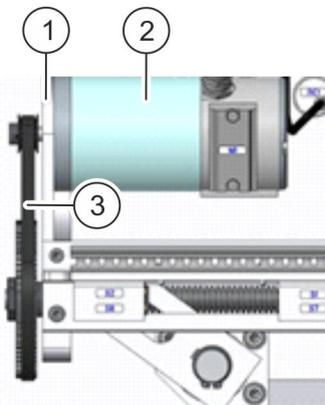

Fig. 24: Undoing the motor fastening
6. ▶ Undo the screws for the motor fastening (Fig. 24/1).
7. ▶ Remove the tooth belt (Fig. 24/3).
8. ▶ Remove the motor (Fig. 24/2).
9. ▶ Insert the new motor (Fig. 24/2) and attach it loosely to the motor fastening (Fig. 24/1) with the screws.
10. ▶ Position the new (Fig. 24/3) tooth belt.
11. ▶ Tighten the screws for the motor fastening (Fig. 24/1) (tightening torque 12–16 Nm).